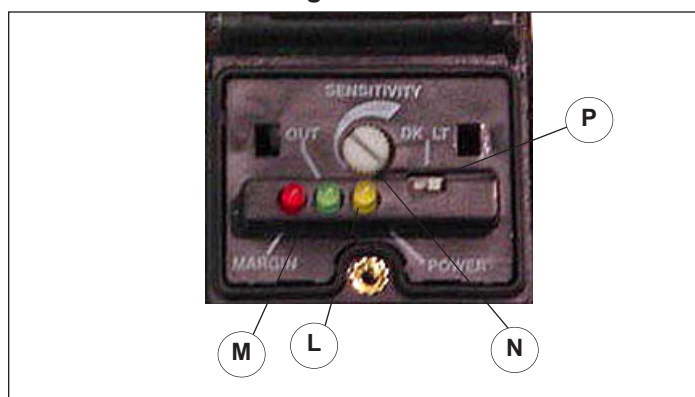

Figure 26.3
NOTE: Make sure to secure electrical cables away from counter weight, belting and pulley. Photoeyes are preset at the factory for sensitivity (N) and light mode (P). Field adjustment should not be required, **Figure 26.3**.